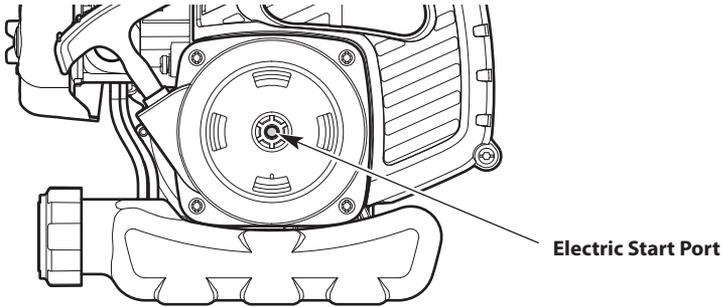

Fig. 13
Some units can be started with an optional electric start accessory (items sold separately). Electric-start-capable units are labeled as such and include an electric start port (Fig. 13).
4. Insert the electric start accessory into the electric start port (Fig. 13).